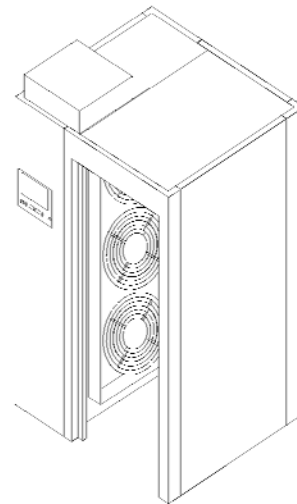

Fig 4
7. Assemble the compartment roof. Locate the cam locks in the grooves on the compartment roof and lower into place. When fitting the roof panel above a door jamb, make sure that the door heater leads exit through the roof panel. (Fig. 4) Lock and seal the roof into place as per the 'Panel Assembly Instructions'. (Refer to page 4)